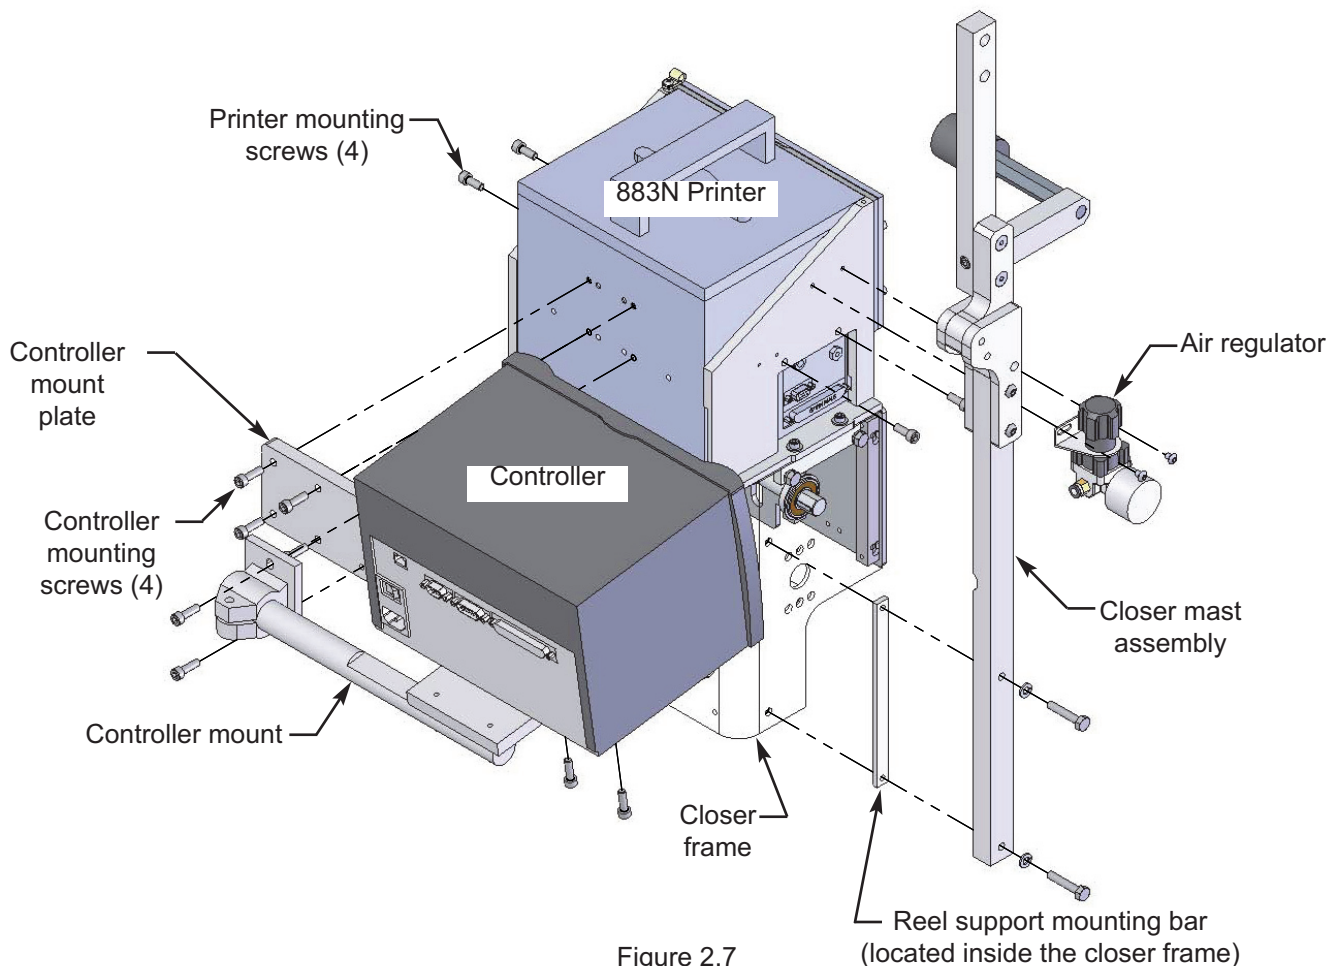

Figure 2.7
I. INSTALL THE MAST: Figure 2.7